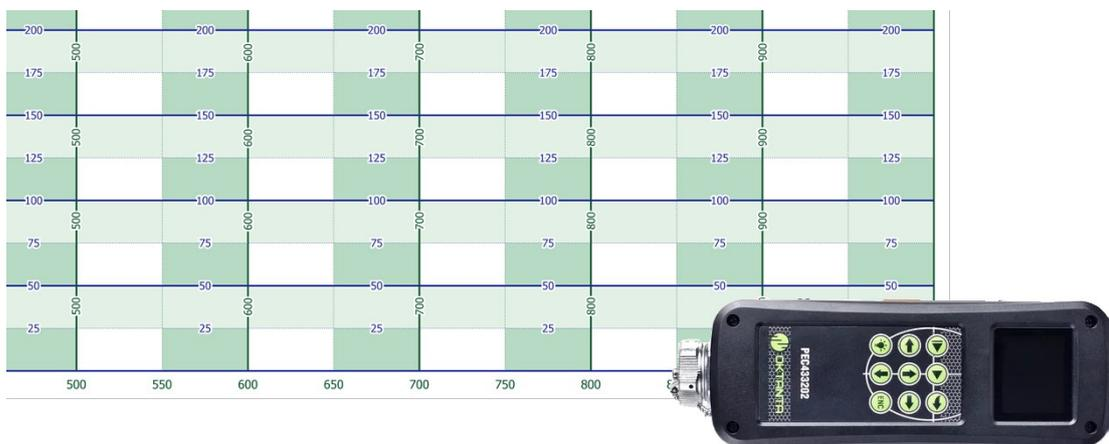

Figure 54. Sensor location at the extreme right point of the scan area.
- Then, repeat operations as described above until the whole length of C-scan is passed. The sensor position in this case is shown in Figure 54.